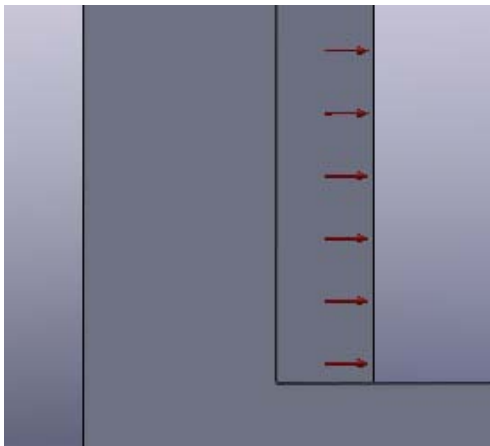

Figure 2.17d) Inlet velocity boundary condition indicated by arrows
18. Red arrows pointing in the right direction appears indicating the inlet velocity boundary condition, see figure 2.17d). Right click in the graphics window and select **Zoom/Pan/Rotate>>**  **Zoom to Fit**. Right click again in the graphics window and select  **Rotate View** once again to rotate the part so that the inner right surface is visible in the graphics window. Right click and click on  **Select**. Right click on  **Boundary Conditions** in the **COSMOSFloWorks analysis tree** and select **Insert Boundary Condition....** Click on the end